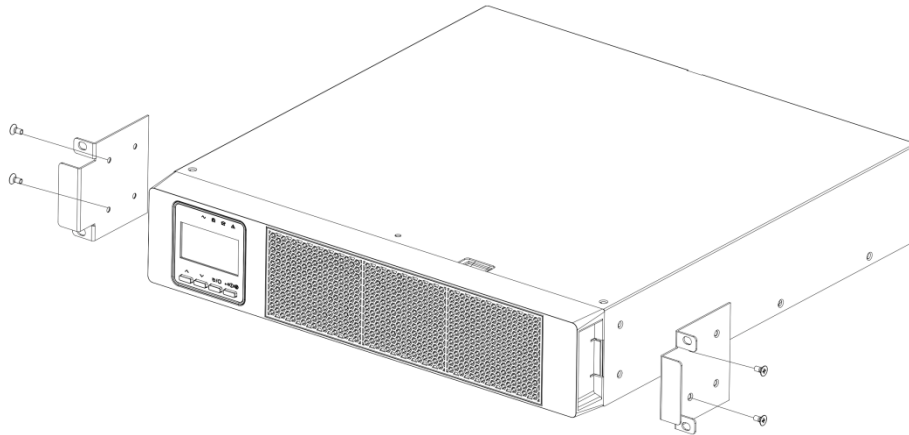

Figure 7: Install the Mounting Bracket
14. Align the mounting brackets with the screw holes on each side of the UPS and secure with the previously removed Phillips Flat Head M4x8 screws (see Figure 7).